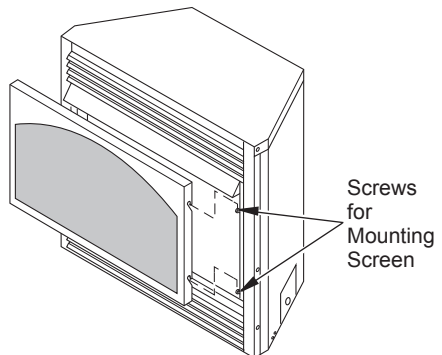

Figure 1 - Removing Fireplace Screen
1. To remove screen, lift screen up off the screws in front of fireplace (see Figure 1).
9. Replace screen (see Figure 1, page 1).